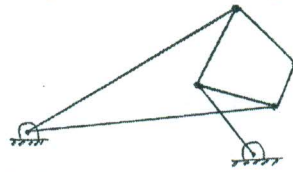

Fig. Q2 (b)
b. Determine the mobility of the system shown in Fig. Q2 (b). (05 Marks)